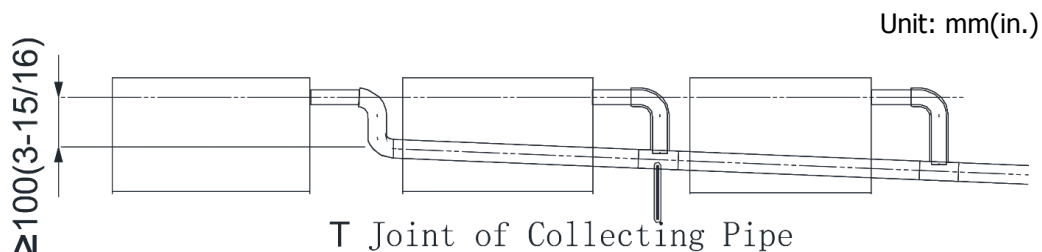

Fig. 4.36
- (4) When multiple drainage pipe sare connected together, connection pipes as shown in fig. 4.36.